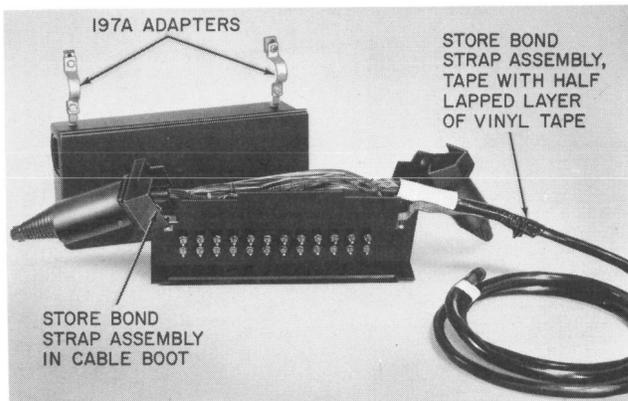

Fig. 14—Placing 1A1 or 1B1 Terminal Stub in 104- or 105-Type Cable Terminal
Store bond strap assembly on unused end of terminal in cable boot (Fig. 14).
- (2) Install 197A adapters on hanging brackets attached to housing assembly (Fig. 14).